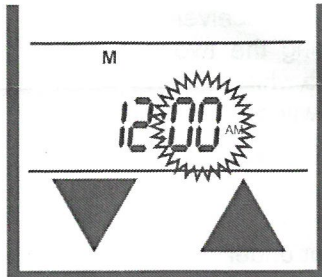

Fig. 6
- The minutes will be flashing. Use the **UP** and **DOWN** touch buttons to select the minute, then press **SET**. (FIG. 6)